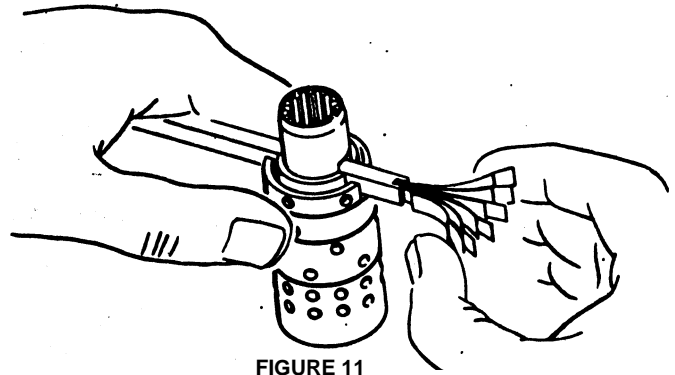

FIGURE 11
4. Bring spring slots of both parts in line and stand parts on end of bench. Insert spring installation tool through spring slots of both parts. Tool is available as part no. 600057. Position 3 pairs of centering springs (or 2 sets of 3 each) on bench so that extended edge is down and arched center section is together. In this position, insert one end of entire spring set into spring installation tool, see Fig. 11.